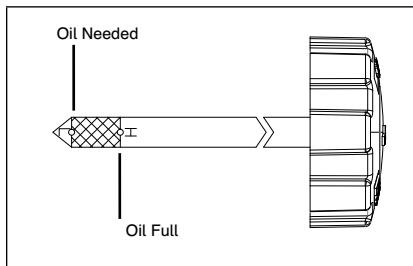

Figure 7
4. If the oil level is near or below the lower limit mark on the dipstick, remove the oil cap/dipstick, and remove the oil cap/dipstick, and fill with the recommended oil to the upper limit mark. Do not overfill (Fig. 7).